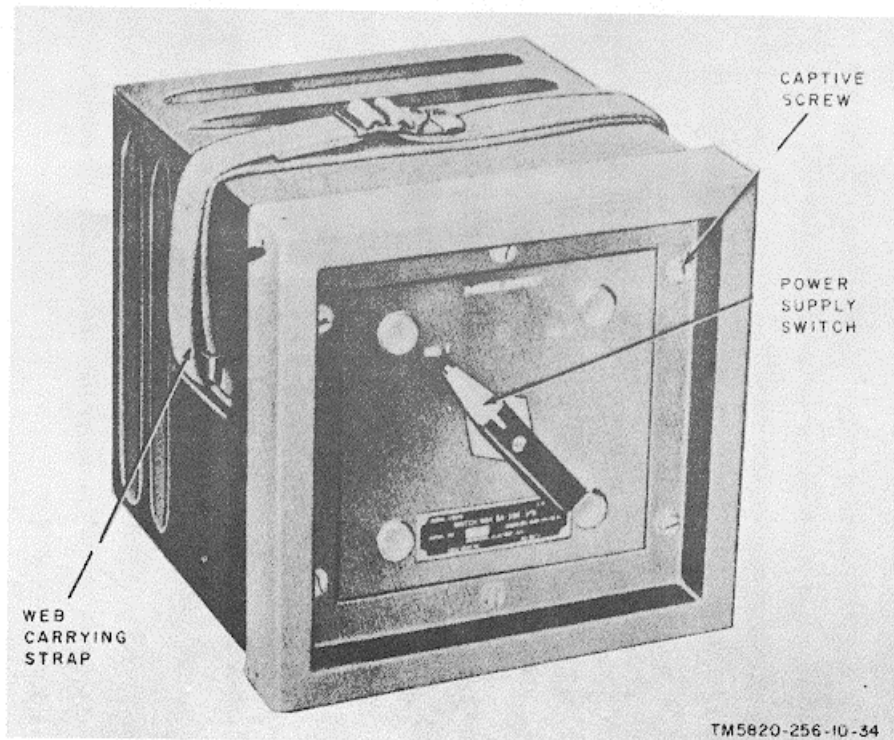

Figure 1-18. Switch Box SA-S1/U, front view.
f. *Switch Box SA-331/U*. The SA-331/U (fig. 1-18 and 1-19), used with the motor-generators and mounted on the motor-generator trailer. It enables the operator to switch from one motor-generator to the other without interrupting the operation of the radio set. The SA-331/U is almost cubical. It is secured in its case by six captive screws on the front and eight captive screws at the rear. The input and output connectors are at the rear of the SA-331/U.